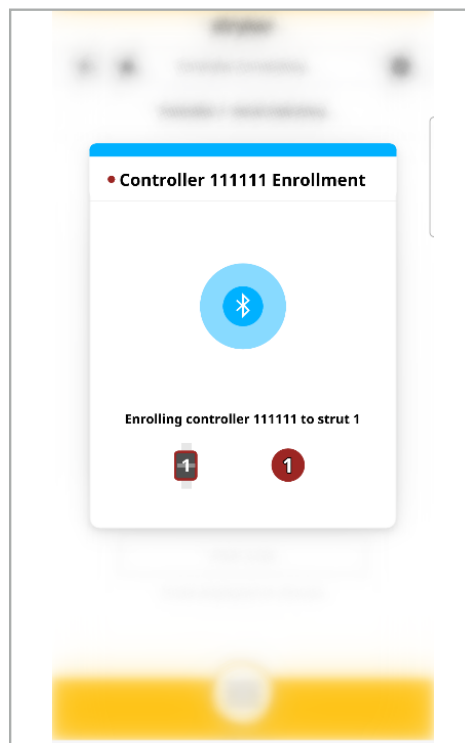

Figure 26
- When the QR code is successfully captured, the screen will display the enrollment progress. **(Figure 26)**